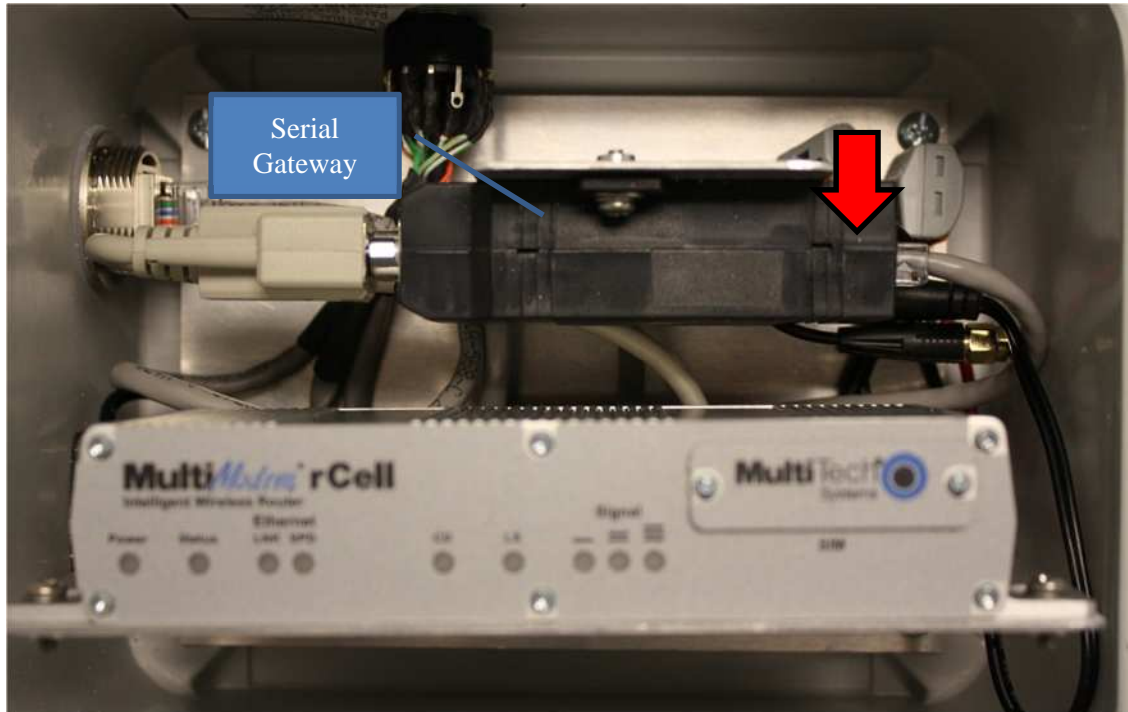

Figure 10 Serial Gateway Ethernet Cable
2. Disconnect the Ethernet cable from the Serial Gateway (see Figure 10). Connect it to the Ethernet port on a PC or laptop. The PC or laptop must be disconnected from any networks (LAN or wireless)